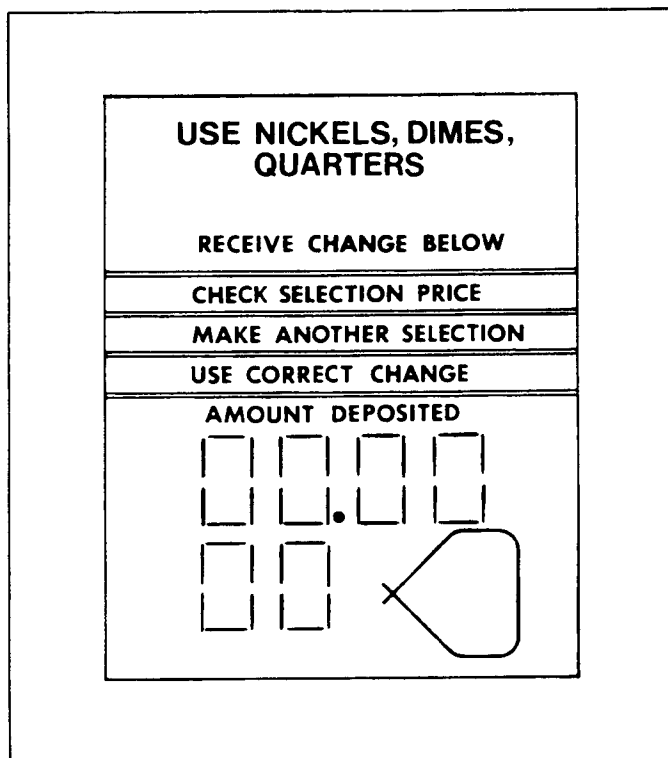

Figure 17.
- B. Press button 11 on the selection panel and the display will show "00.00" (Figure 17) along with three audible beeps will be heard. This is the price display and can be incremented up by pressing button 11 and down by pressing button 12. Increments are 5¢ and each increase will produce one audible beep.